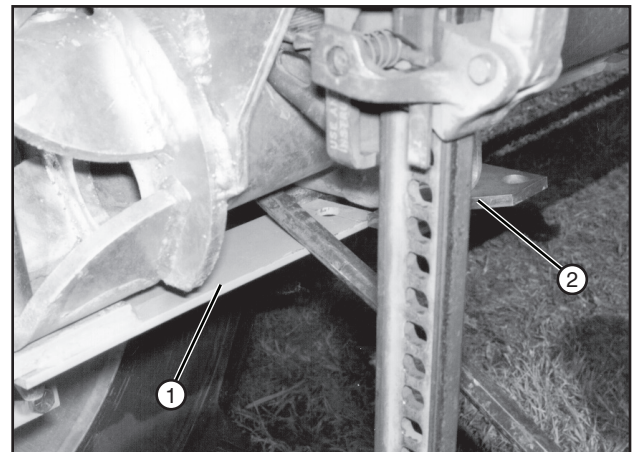

Figure 63-2 1. Steering Arm 2. Latch Plate
6. Using a pry bar, push down on the steering arm to release it from the latch plate. Push the tire toward the tow position until steering arm is out of latch plate. See figure 63-2.